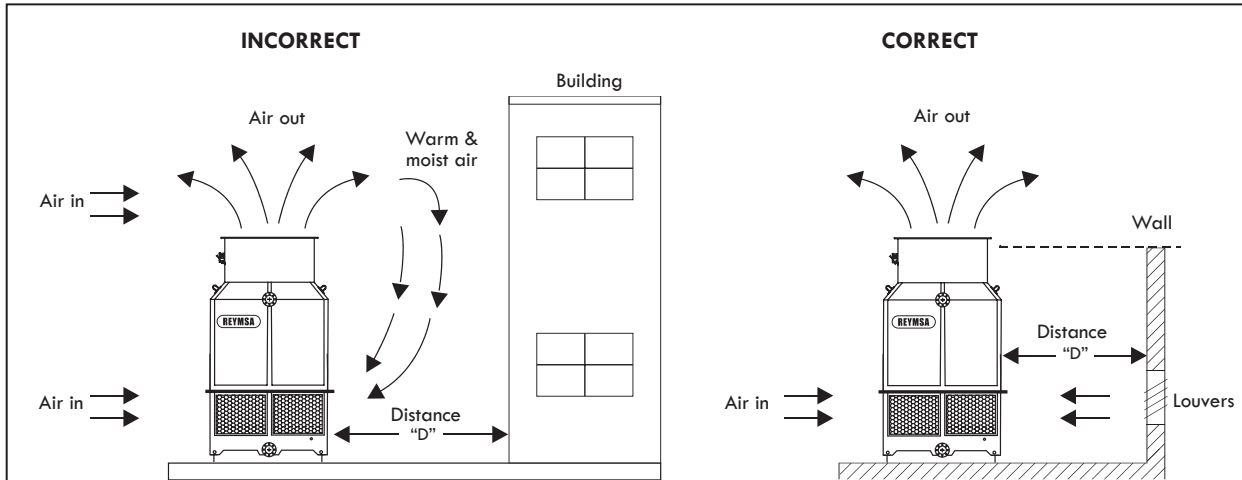

Figure A-2: Recirculation
- Place the Cooling Tower where it will have at least the recommended clearance on all sides for servicing and for adequate air intake. It is advisable and preferred to have the top of the Tower above the roofline of any adjacent building or other nearby obstructions. This will limit the possibilities of the air recirculation back into the towers air intake (See Figure A-2). Use prevailing summer winds as a guideline for placing a Tower in a location that minimizes interference.